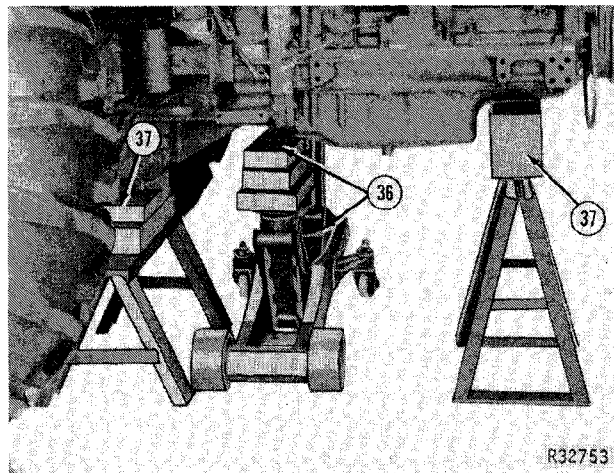

Fig. 42-Positioning Floor Jack and Stands
- 37. Install floor stands as shown in Fig. 42.